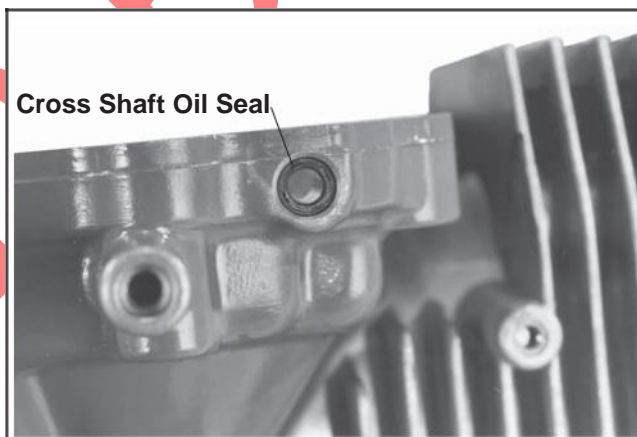

Figure 9-52. Removing Cross Shaft Oil Seal.
3. Remove the governor shaft oil seal from the crankcase. See Figure 9-52.